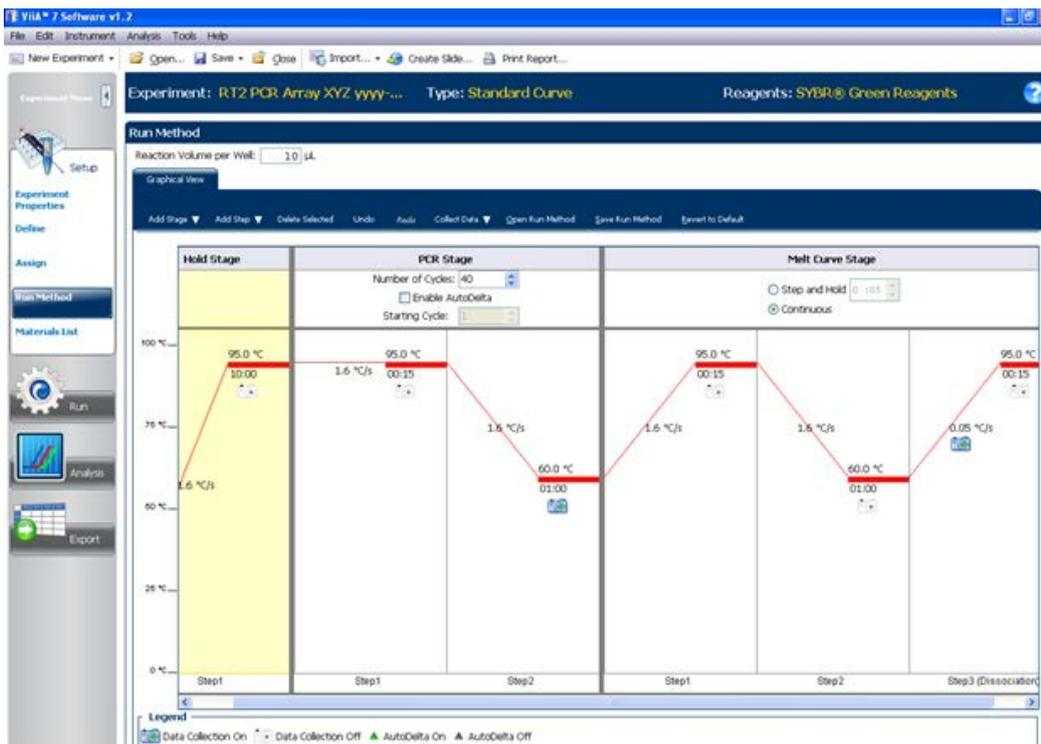

Figure 4. "Run Method" tab.
11. If you want to set up the baseline manually and select the best fit threshold for your whole study, follow the procedures below to calculate the threshold cycle (C_T) for each well (See figures 4 and 5):